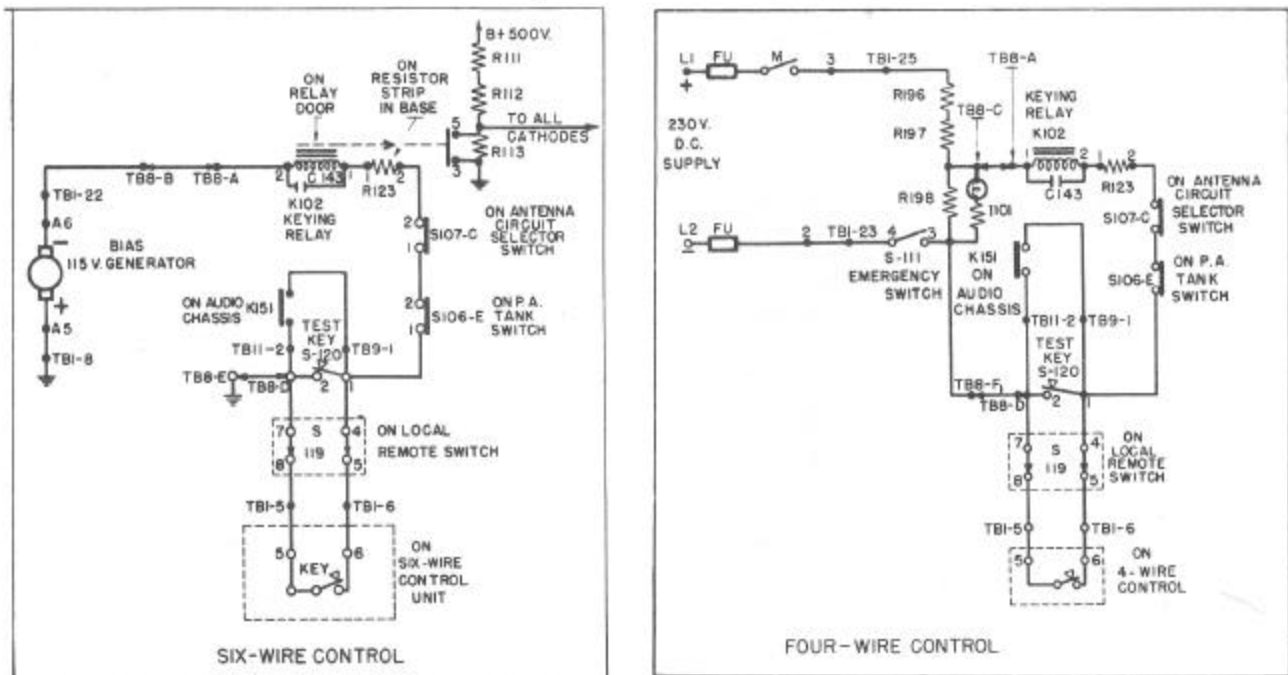

Figure 2-11—Keying Relay Circuit
**e. Keying Relay.** (See Figure 2-11).—The keying relay, when it is closed removes cathode bias from the transmitting tubes and permits the emission of power. In normal operation with a six-wire push-button control the test key is connected between one side of the relay coil and ground and the other side of the coil is connected to the —115 volt source. Shunted across the test key is the carrier control relay in the audio or modulator unit, and the operator's key on the remote 6-Wire Control Unit. Closing any one of these three parallel keys will apply the —115 volts across the keying relay actuating coil and start transmission.